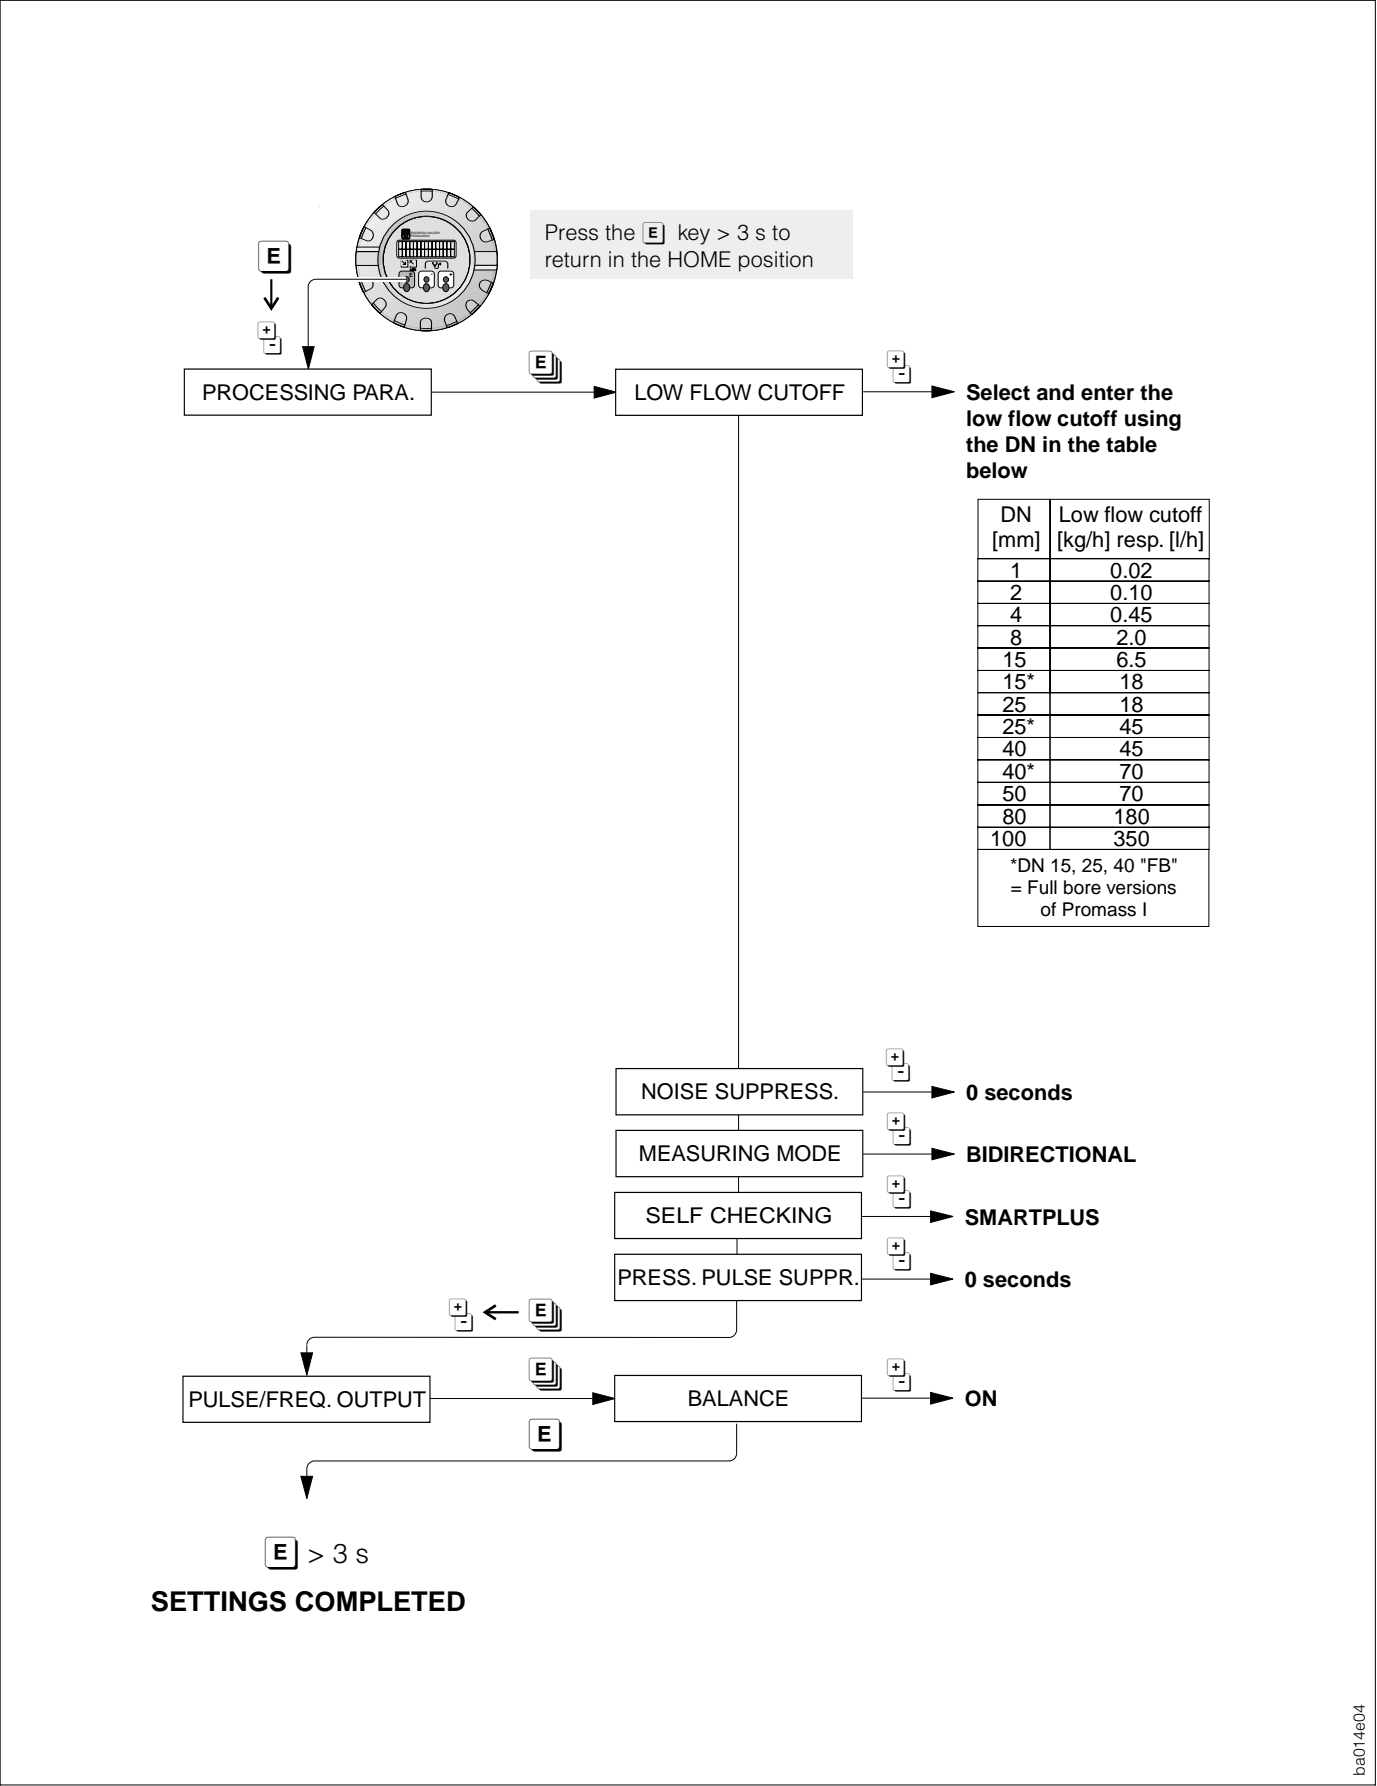

Fig. 26
Using specific settings of the various functions in the Promass 63 operating matrix (see Fig. 26 resp. 27), such variations can be compensated for over the entire flow range and pulsating flows can be correctly determined.
Settings for strongly pulsating flows required (see Fig. 26 resp. 27).
- Process cannot be interrupted during the setting procedure → see Fig. 26, page 43.
Under normal circumstances the noise suppression function should be set at 0 seconds (= OFF) for strongly pulsating flows (see Fig. 26, 27).